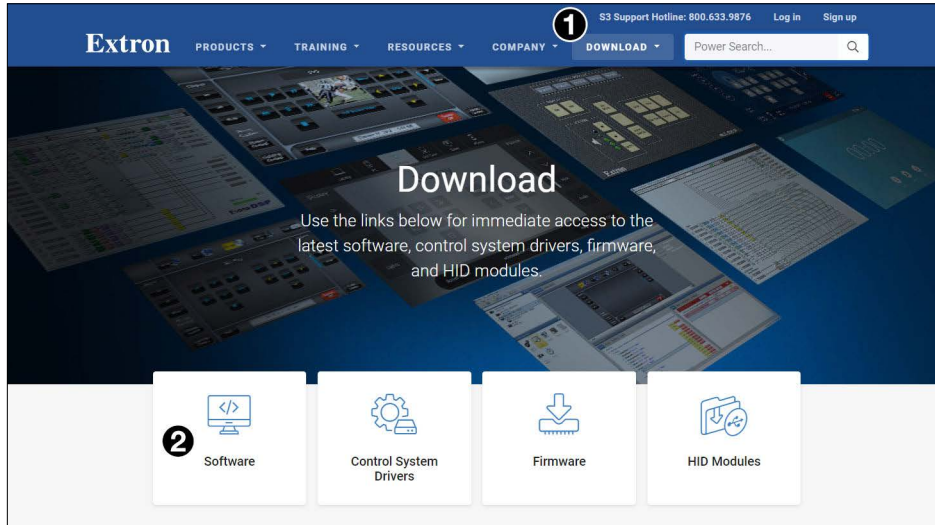

Figure 6. Downloading Software
2. Click **Download** (see figure 6, ①).
3. Click **Software** (②).